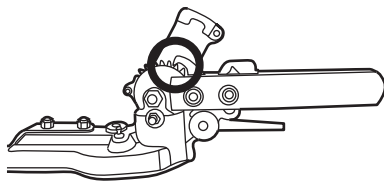

Fig. 20d
d). Release the unlock levers (C4) when the desired angle is adjusted. Ensure that the hook engages between two teeth of the tooth wheel. (See Fig. 20d)